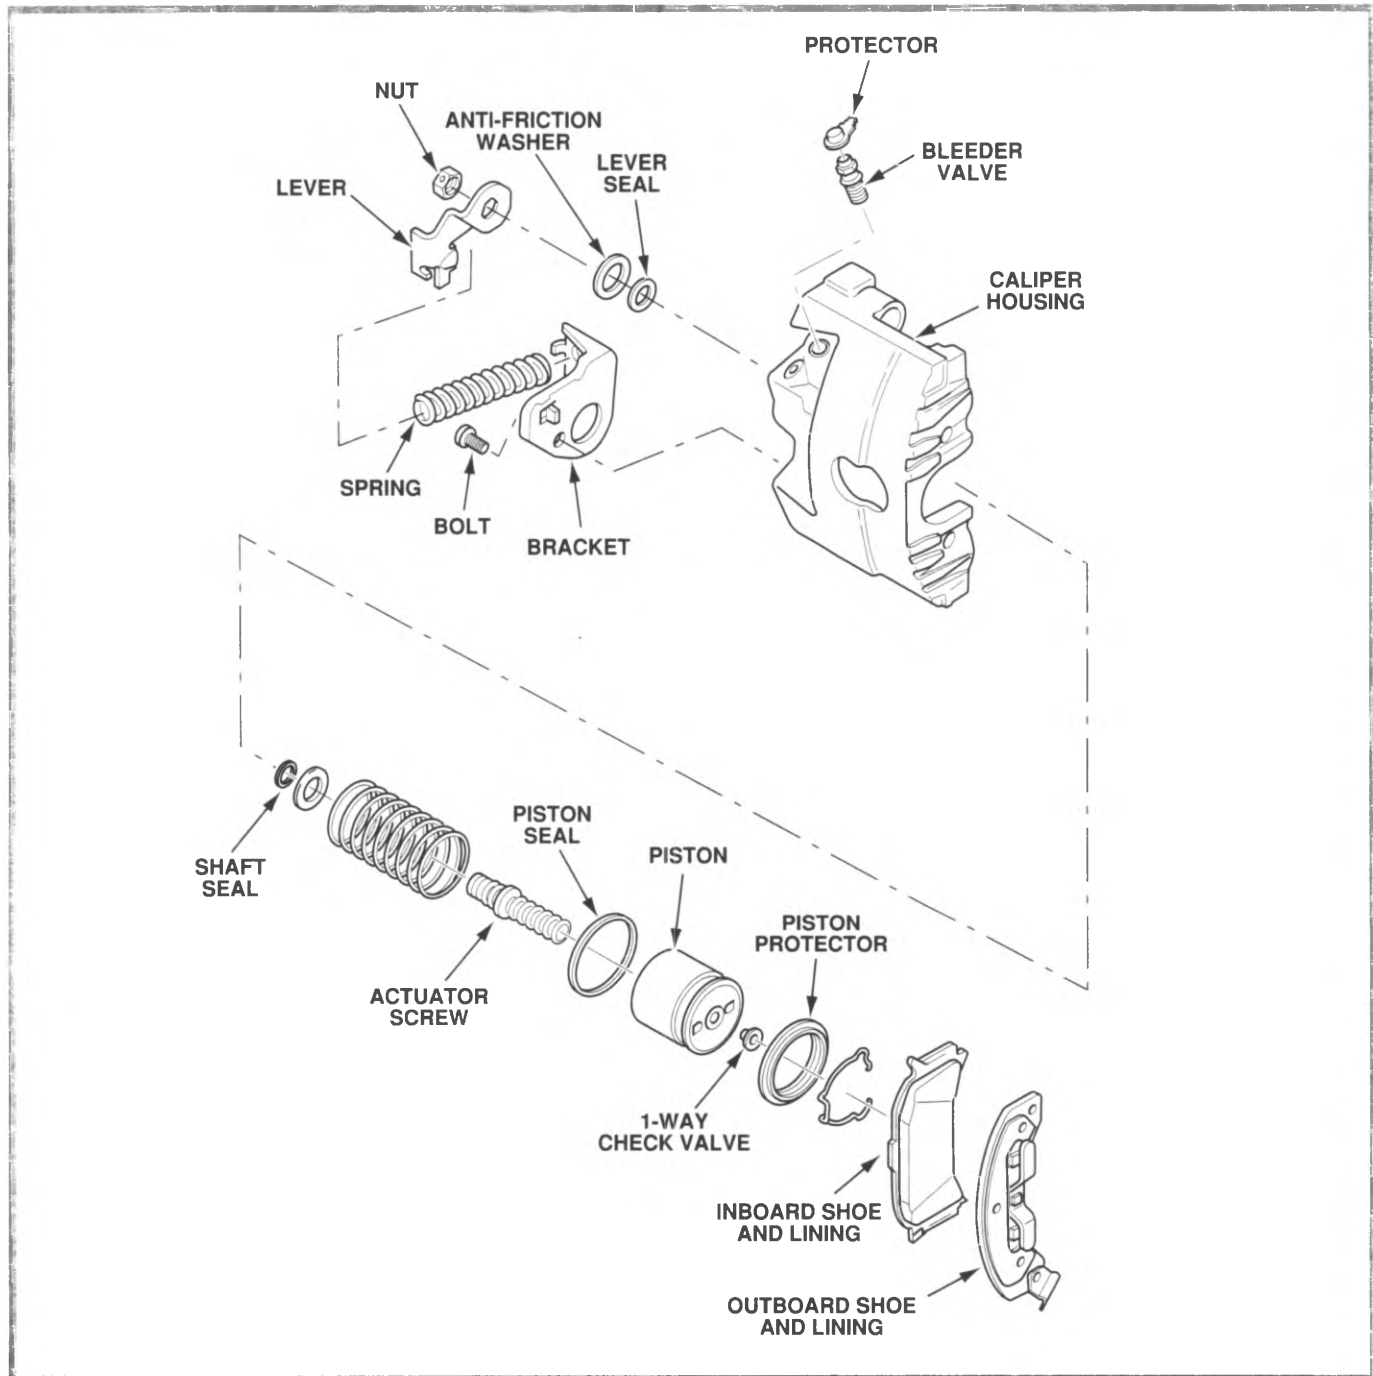

Figure 6-39, Rear Caliper Disassembly
1. Remove the caliper from the vehicle (figure 6-39).